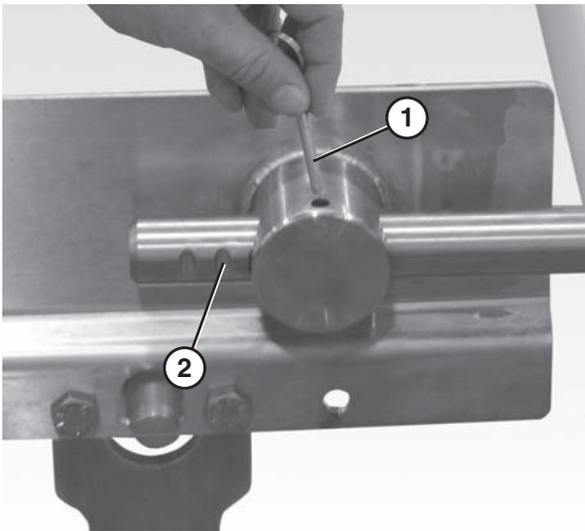

Figure 63
1. Remove both pull pins (**Figure 63, item 1**) on the tension end of the conveyor.
2. Extend the idler tail to the next groove (**Figure 63, item 2**) on the bearing shaft.